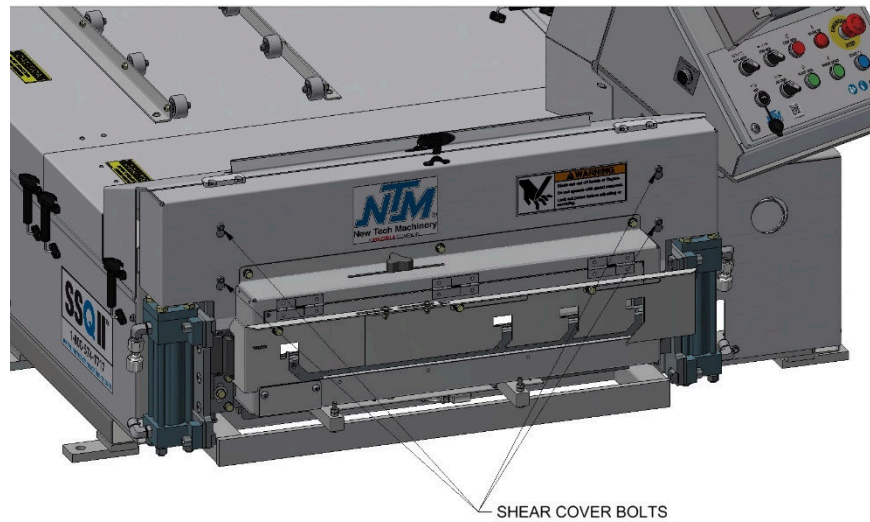

Figure 74: Removing Shear Cover
26. Using a 3/8” wrench, loosen the four (4) Shear Cover Bolts (Figure 74) about two turns and remove the Shear Cover.